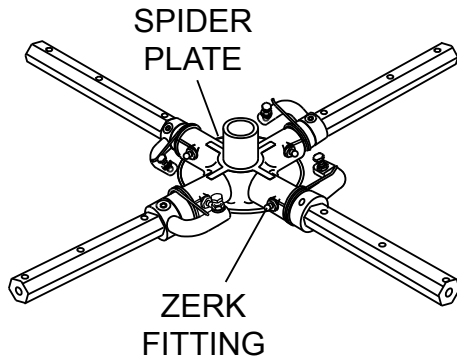

Figure 28. Removing Zerk Grease Fitting
1. Each trowel arm is held in place at the spider plate by a hex head bolt (with zerk grease fitting). Remove the hex head bolt/zerk grease fitting from the spider plate. (Figure 28)